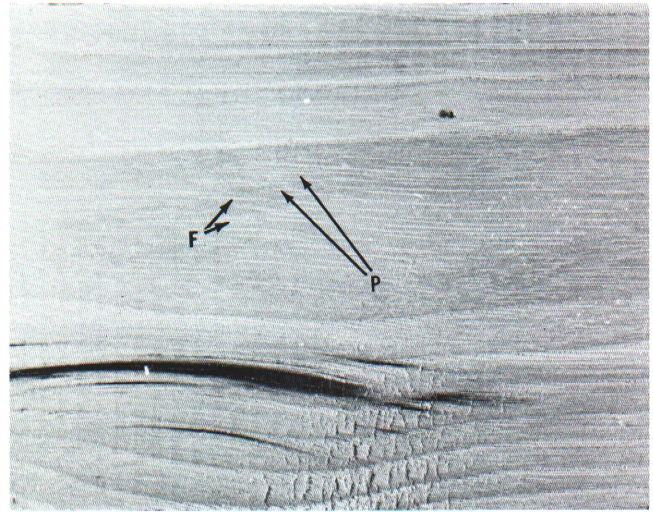

Figure 15—Hickory. Pores in narrow bands, P, separated by smooth hard surface, F.
19. Wood very hard and heavy, pores in earlywood not in continuous row along the ring, pores on tangential face in narrow bands or lines (See Fig. 15) ..... **Pecan or Hickory**